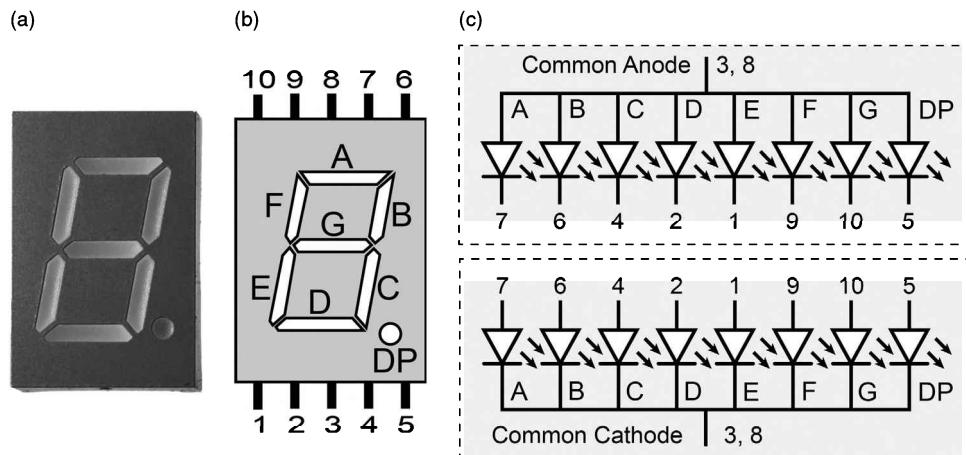
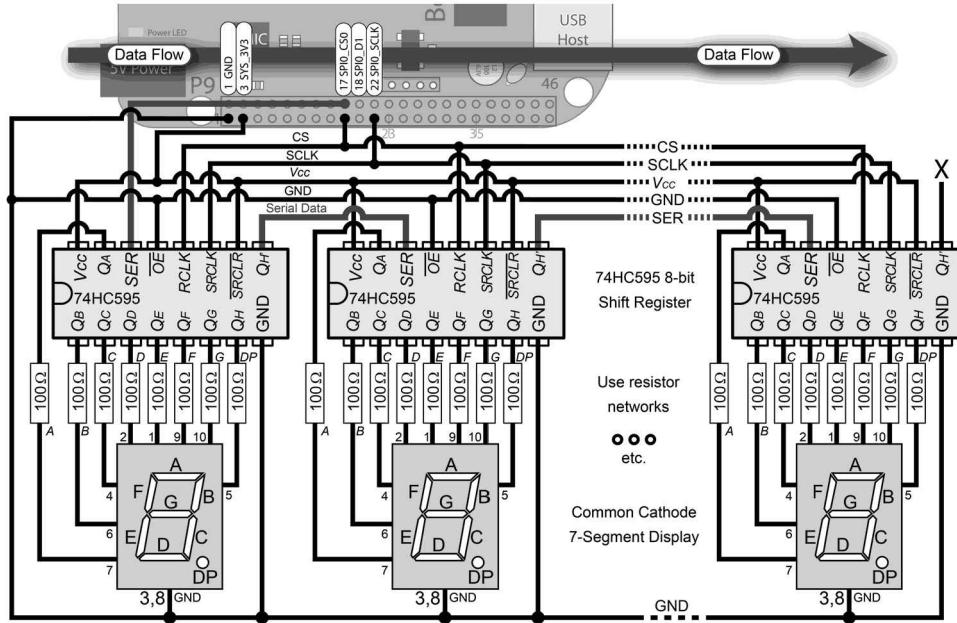

Figure 9-17: (a) Seven-segment display; (b) typical pin ordering; (c) typical common anode and cathode display configurations
Figure 9-18: SPI interfacing to arrays of common cathode seven-segment displays using daisy-chained 74HC595 8-bit serial shift registers
Seven-segment displays typically consist of eight LEDs that can be used to display decimal or hexadecimal numerals with a “decimal” point. They are available in a range of sizes and colors, with a typical example displayed in Figure 9-17(a). The segments are typically labeled as in Figure 9-17(b).
Seven-segment displays are described as being either *common cathode* or *common anode* displays. This means that the cathodes or anodes of the array of LEDs that make up the display are connected together as in Figure 9-17(c). You should not limit the current passing through the display by placing a single resistor on the common anode or the common cathode connection, as the limited current will be shared among the segments that are lighting. This results in an uneven
Figure 9-18 illustrates a wiring configuration that can be used to connect an array of common cathode seven-segment displays to the BBB using its SPI interface. This is similar to the circuit in Figure 8-5, with the exception that the 74HC595 ICs are *daisy-chained* (i.e., the serial output of one stage is applied as the serial input to the next stage) by connecting the serial output Q_H from one stage to the SER input of the next stage. If there are three seven-segment displays in this configuration, then it is necessary to shift 24 bits (3×8 bits) to the BBB SPI0_D1 output before latching the 74HC595s using the BBB's SPI0_CS0 line.
For example, `0b00111111` displays the zero symbol, as all segments are on, except for the “decimal” point (DP) and the center segment (G)—see Figure 9-17(b). The code in Listing 9-8 provides an example of how to use an array of common cathode seven-segment displays, as shown in Figure 9-18. The constructor of the `SevenSegmentDisplay` class requires an `SPIDevice` object and the number of segments that are present in the display circuit.
If the circuit is built as in Figure 9-18 (but with two segments) and attached to the SPI0 bus, then the code in Listing 9-8 counts in hexadecimal in steps of 1 until it reaches 0xFF, whereupon it counts in decimal from 0.0 to 9.9 in steps of 0.1. This demonstrates the range of functionality that is available in the class. The DP segment lights as required—it can act as a “decimal point” for any base used. To build and execute this code, you must first ensure that the SPIDEV0 virtual cape is loaded:
The class can also be used with common anode display modules. The modules would be wired exactly as in Figure 9-18; however, pin 3 or 8 would be connected to the +5V line—see Figure 9-17(c). The role of the 74HC595 would then be to sink current in order to light one of the LED segments. For example, if the output of Q_H on the 74HC595 is logic high, then the DP will not be lit, as both the cathode and anode of the LED will be at a 5V level and the LED will not be forward-biased. However, if Q_H is logic low, then the anode of the DP will be at +5V and the cathode will be at 0V. The DP segment will then be forward-biased and will light. Therefore, the code to drive a common anode seven-segment display simply inverts the bits in the number that is sent to the 74HC595. For example, the number 0 is 0b00111111 for a common cathode display and 0b11000000 for a common anode display.